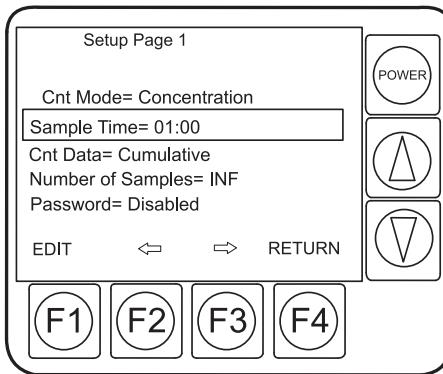

Figure 9 Select sample time
2. Press the **DOWN** arrow key to move to the Sample Time field (refer to Figure 9 on page 20).
Use the **UP** and **DOWN** arrow keys to select the second selection line of Sample Time or Sample Volume. When Sample Time is highlighted, the display will change from “PAGE 2” to “EDIT” (refer to Figure 9). The display will change back to “PAGE 2” when the cursor is moved to another line or the Sample Time is changed to Sample Volume.